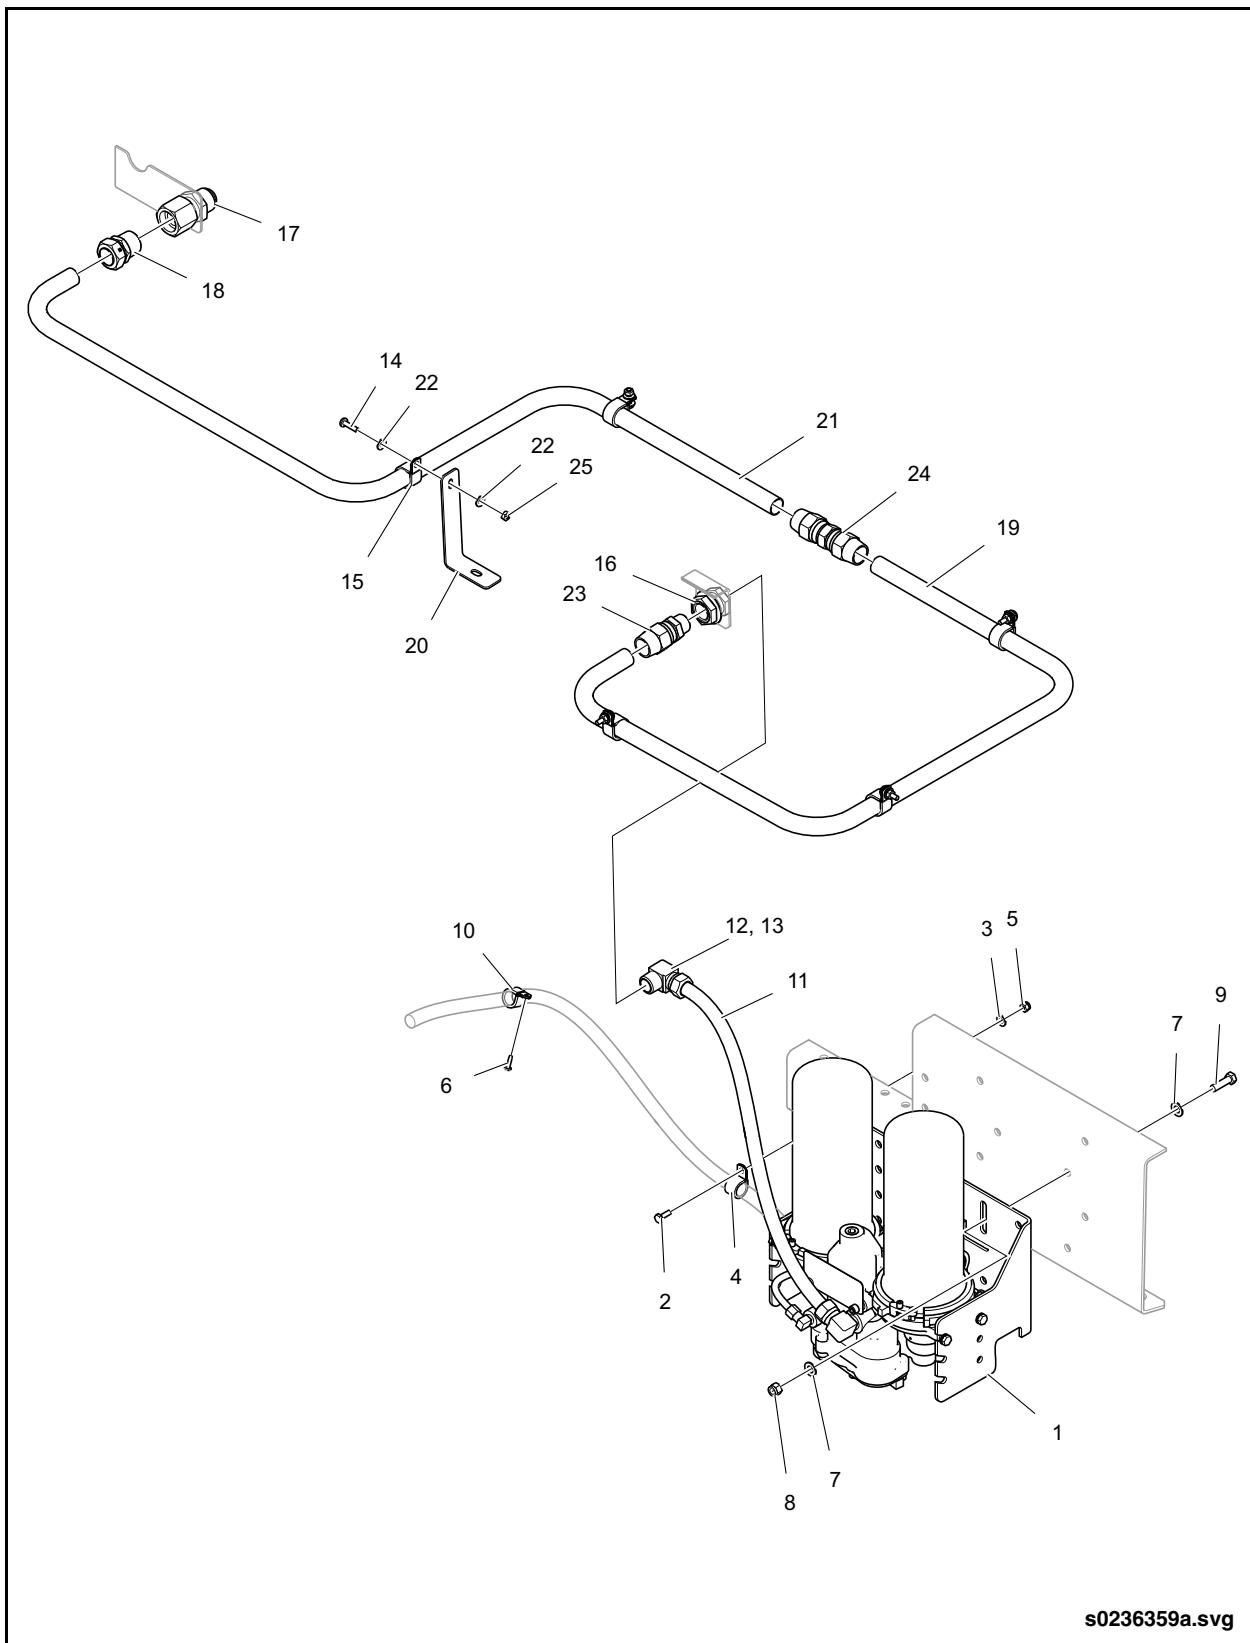

Fig. 8-7: Air Dryer Installation
1. Remove the three air lines from the air dryer. See "Fig. 8-7: Air Dryer Installation" on page 38.